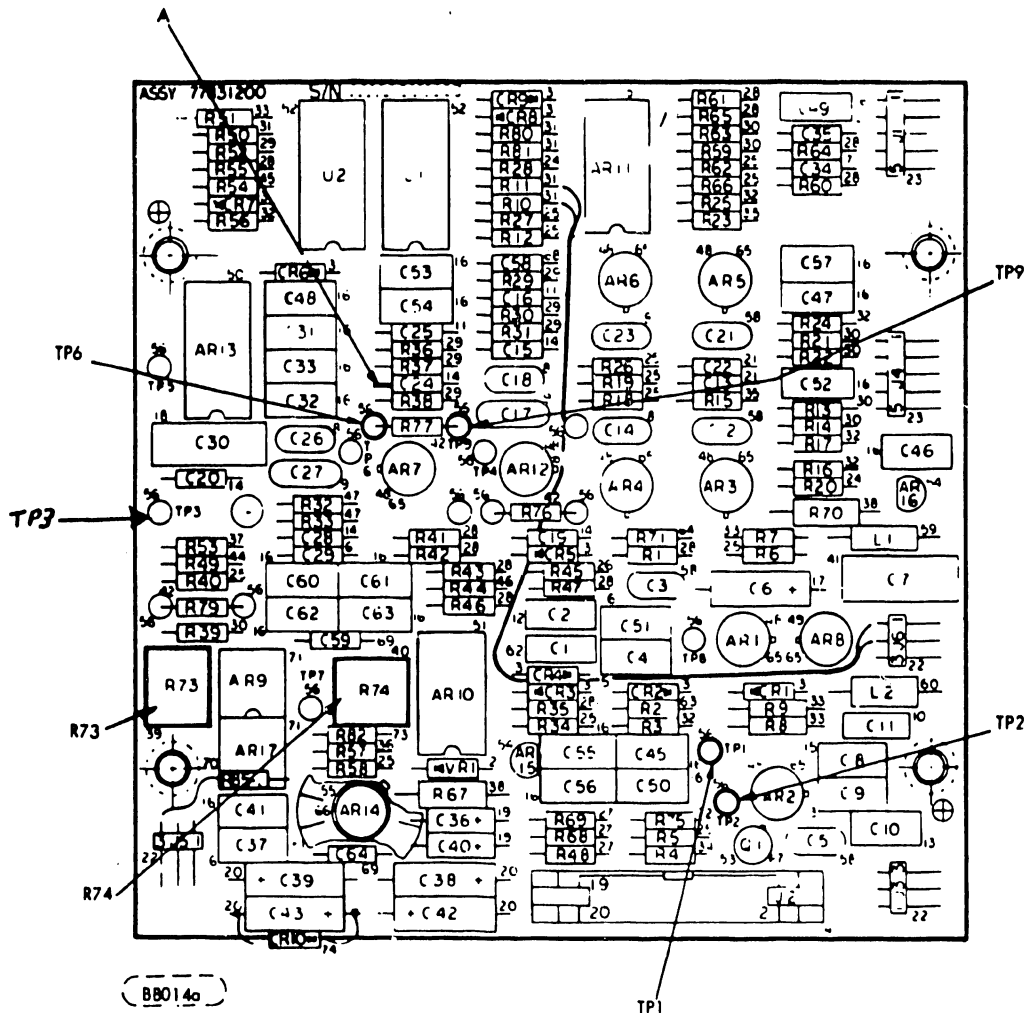

FIGURE 3-3 SERVO PREAMP BOARD
- C. -5V Cables - On the CDC Hawk drives connect the -5V cable to TP9 on the AGC Servo Preamp Board. See Figure 3-3.
12. Adjust potentiometer R73 on Servo Pre-Amp board (Ref. Figure 3-3) so that there are 35 (+1) milliseconds between the "On Cylinder" pulses as pictured in the sketch.
11. Connect channel 2 to TP 3 on Servo Pre-Amp board. (Ref. Figure 3-3).
15. Adjust potentiometer R74 on Servo Pre-Amp board (Ref. Figure 3-3) so that the channel 2 signals are balanced above and below the ground reference as shown in the sketch below.